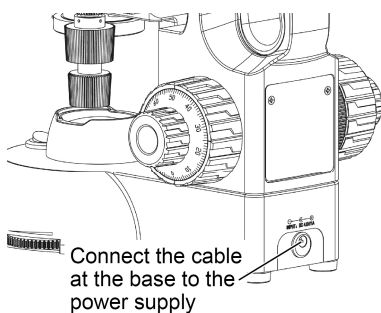

Fig.1
- Connect the cable/ charger to the power supply. Before plugging in, keep in mind that the working voltage of the digital microscope shall be the same as the supply voltage. (Fig.1)